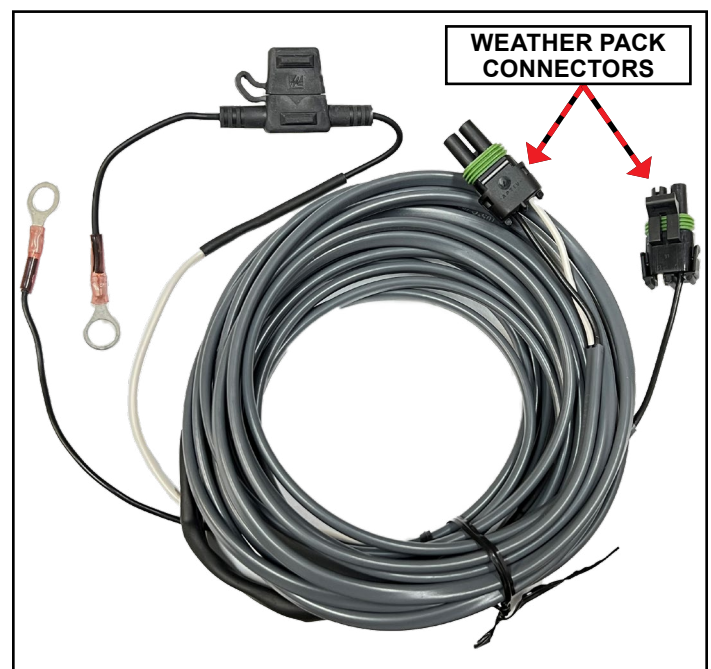

Figure 4
**NOTE:** The supplied wire harness has 2 pre-terminated Weather Pack connectors. One lead is longer than the other, but the connectors are electrically the same. Use the proper length lead for each component. See Figure 4.